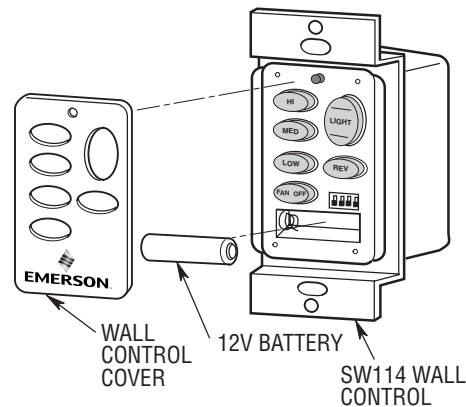

Figure 21
1. Install the 12V battery (supplied) into the wall control (Figure 21).
2. The SW114 wall control is supplied with a white, ivory or almond color cover. Choose the style that best suits your needs and snap the cover onto the wall control (Figure 21).